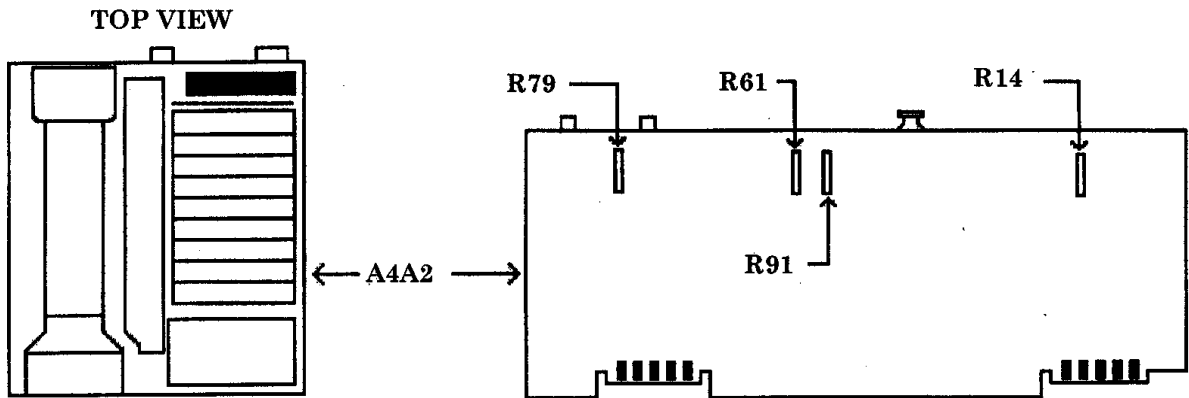
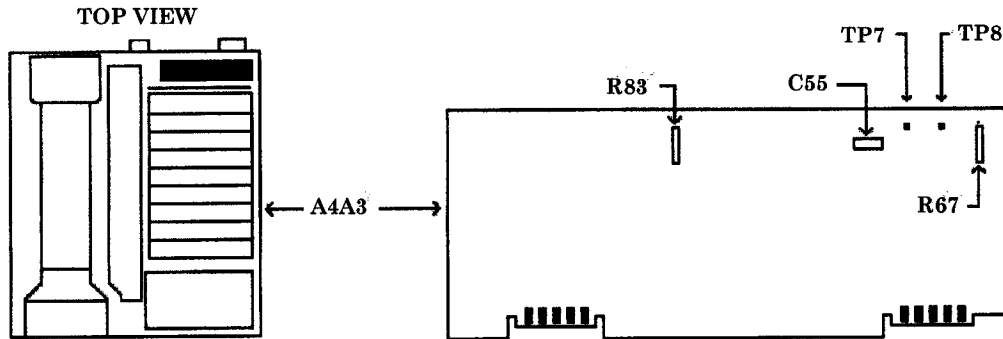

Figure 24. A4A2 board.
Figure 25. A4A3 board.
- (34) Adjust A4A2R79 (fig. 24) for  $0.0000 \pm 0.0005$  V dc
- (35) Press TI **SCALE LOG** key.
- (36) Connect TI **RF INPUT** to synthesizer/level generator **50W OUTPUT**.
- (37) Set synthesizer/level generator for an output frequency of 7.6 MHz at an output level of 5 dBm.
- (38) Adjust A4A3C55 (fig. 25) for a maximum multimeter indication.
- (39) Short A4A3TP7 to A4A3TP8 (fig. 25) and record multimeter indication.
- (40) Remove short from between A4A3TP7 and A4A3TP8.
- (41) Adjust A4A3R67 (fig. 25) for a multimeter indication the same as that recorded in (39) above  $\pm 0.0005$  V dc (R). If TI can not be adjusted to meet this tolerance then TI must be repaired.
- (42) Press TI **SCALE LIN** key.
- (43) Adjust synthesizer/level generator output level for a multimeter indication of  $1.000 \pm 0.002$  V dc.
- (44) Press TI **SCALE LOG** key.
- (45) Decrease synthesizer/level generator output level by 50 dBm.
- (46) Adjust A4A2R91 (fig. 24) for a multimeter indication of  $0.500 \pm 0.001$  V dc (R).
- (47) Increase synthesizer/level generator output level by 50 dBm.
- (48) Adjust A4A2R61 (fig. 24) for a multimeter indication of  $1.000 \pm 0.001$  V dc (R). If TI can not be adjusted to meet this tolerance then TI must be repaired.
- (49) Press TI **SCALE LIN** key.
- (50) Multimeter should indicate  $1.000 \pm 0.020$  V dc. If multimeter indication is out of tolerance then TI must be repaired.
- (51) Press TI **REFERENCE LEVEL, 0, and dBm** keys.
(52) Adjust synthesizer/level generator output level for a multimeter indication of  $1.000 \pm 0.001$  V dc.
(53) Press TI keys as listed in (a) through (c) below:
(54) Decrease synthesizer/level generator output level by 10 dBm.
(55) Adjust A4A3R83 (fig. 25) for a multimeter indication of  $1.000 \pm 0.010$  V dc. If multimeter indication is out of tolerance then TI must be repaired.
(56) Press TI **REFERENCE LEVEL, 70,** and **- dBm** keys.
(57) Decrease synthesizer/level generator output level by 10 dBm.
(58) Adjust A4A2R14 (fig. 24) for a multimeter indication of  $1.000 \pm 0.010$  V dc. If multimeter indication is out of tolerance then TI must be repaired.
(59) Press TI **2-22 GHz** key.
(60) Disconnect synthesizer/level generator **50W OUTPUT** from TI **RF INPUT**.
(61) Connect TI **CAL OUTPUT** to TI **RF INPUT**.
(62) Press TI keys as listed in (a) through (g) below: